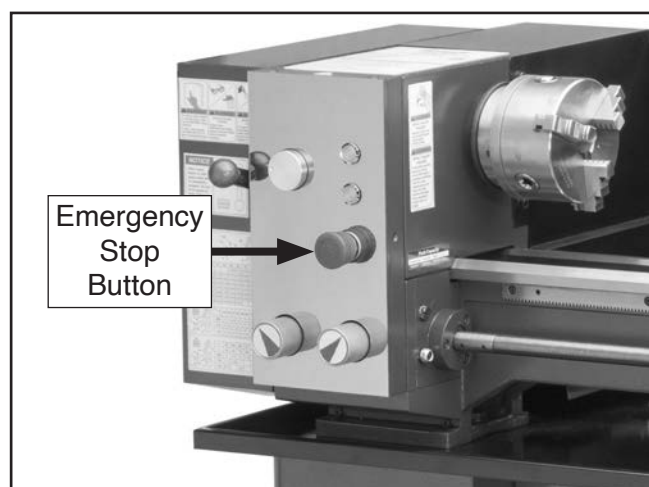

Figure 24. Location of Emergency Stop button.
1. Press Emergency Stop button (see **Figure 24**).